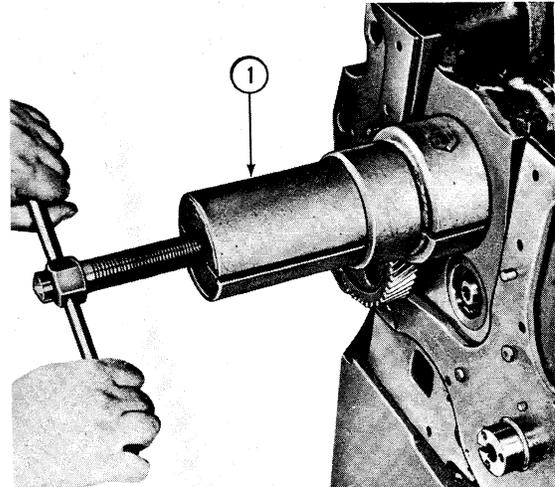

Figure 22
7. **CRANKSHAFT GEAR:** Inspect the gear teeth and dress minor imperfections with a carborundum stone. If the gear teeth are worn or chipped, remove the gear with tool SW 501 for CPT 6040B as shown in Figure 22. After the gear has been removed, inspect the key and keyway for wear. Replace any worn or damaged part.